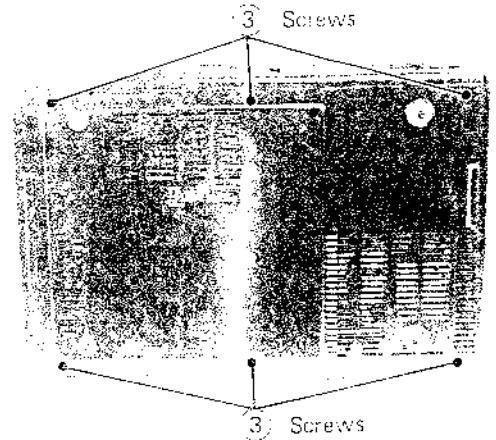

Fig. 3-4
4. Take out 6 screws (3) shown in Fig. 3-4 and remove the bottom cover.